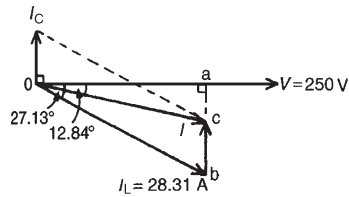

Figure 16.21
- . The phasor diagram is shown in Fig. 16.21.